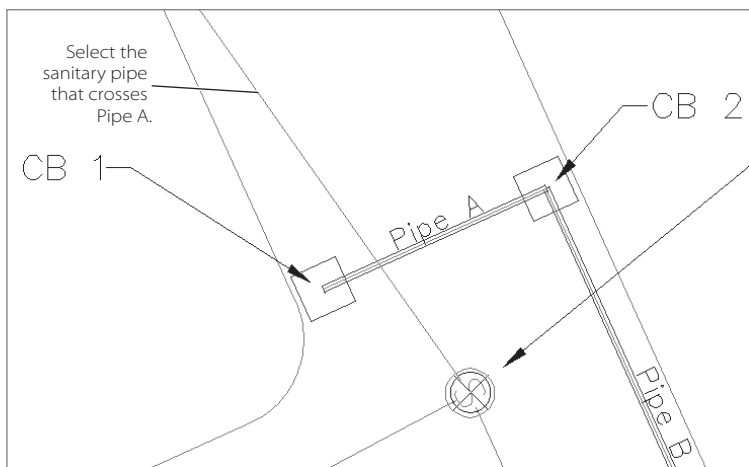

Figure 13.21
13. At the Select pipe network parts to add to profile view: prompt, select the sanitary pipe that crosses Pipe A (see Figure 13.21). Press **↵**.